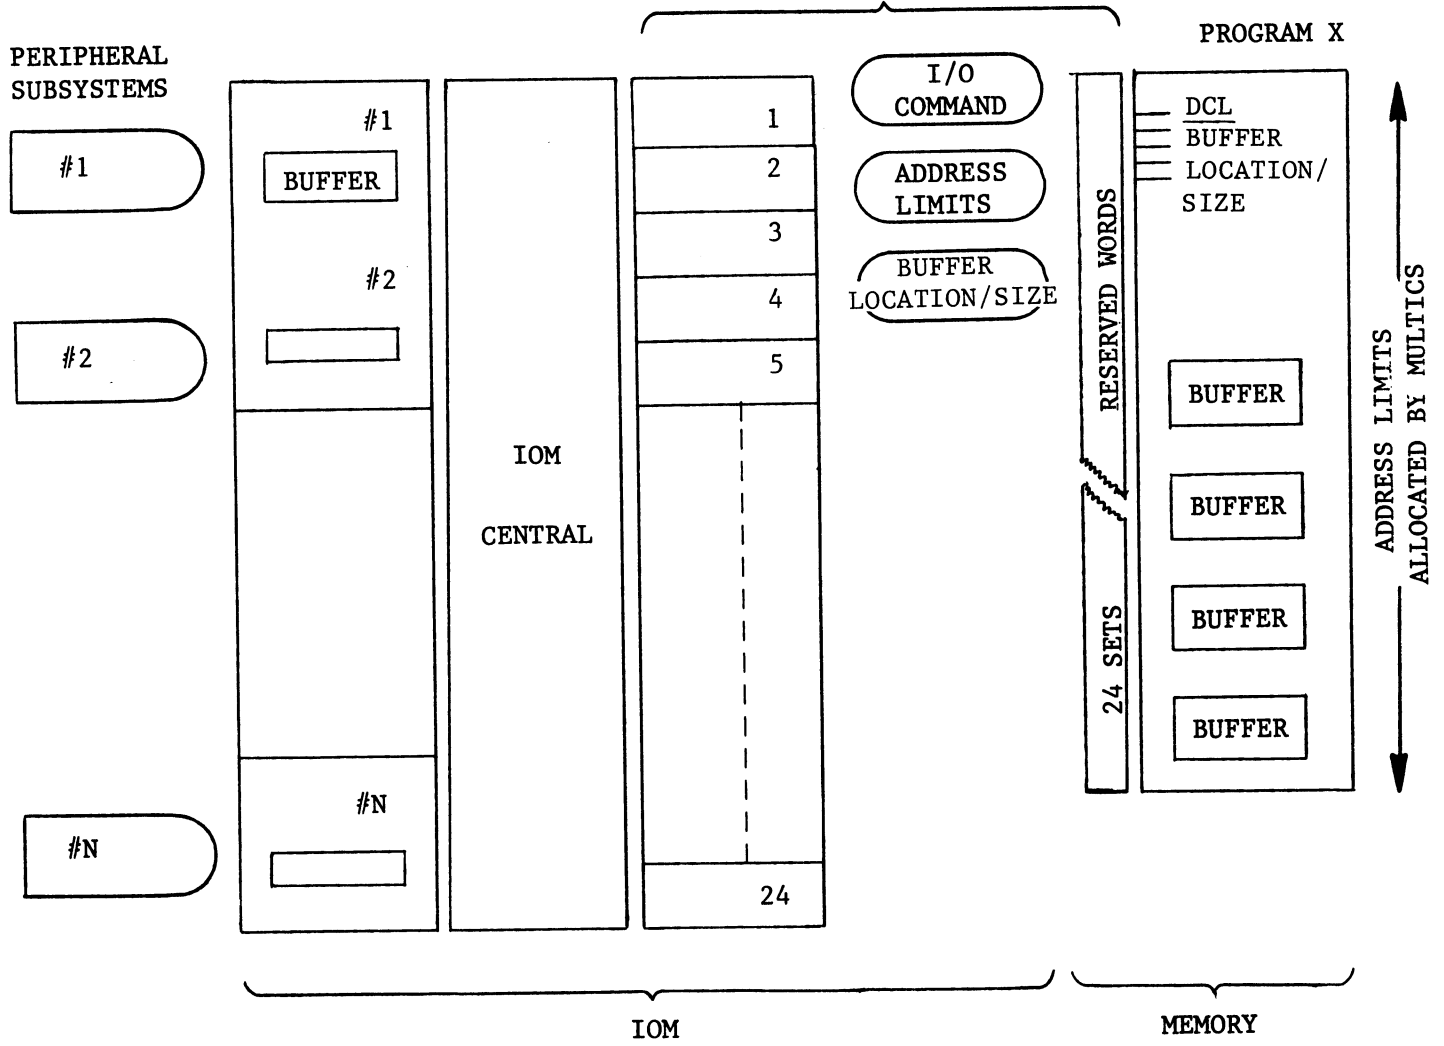

Figure 4-3. Linkage to Program to Complete the Data Transfer Path
b. Linkage to program to complete data transfer path (see Figure 4-3).